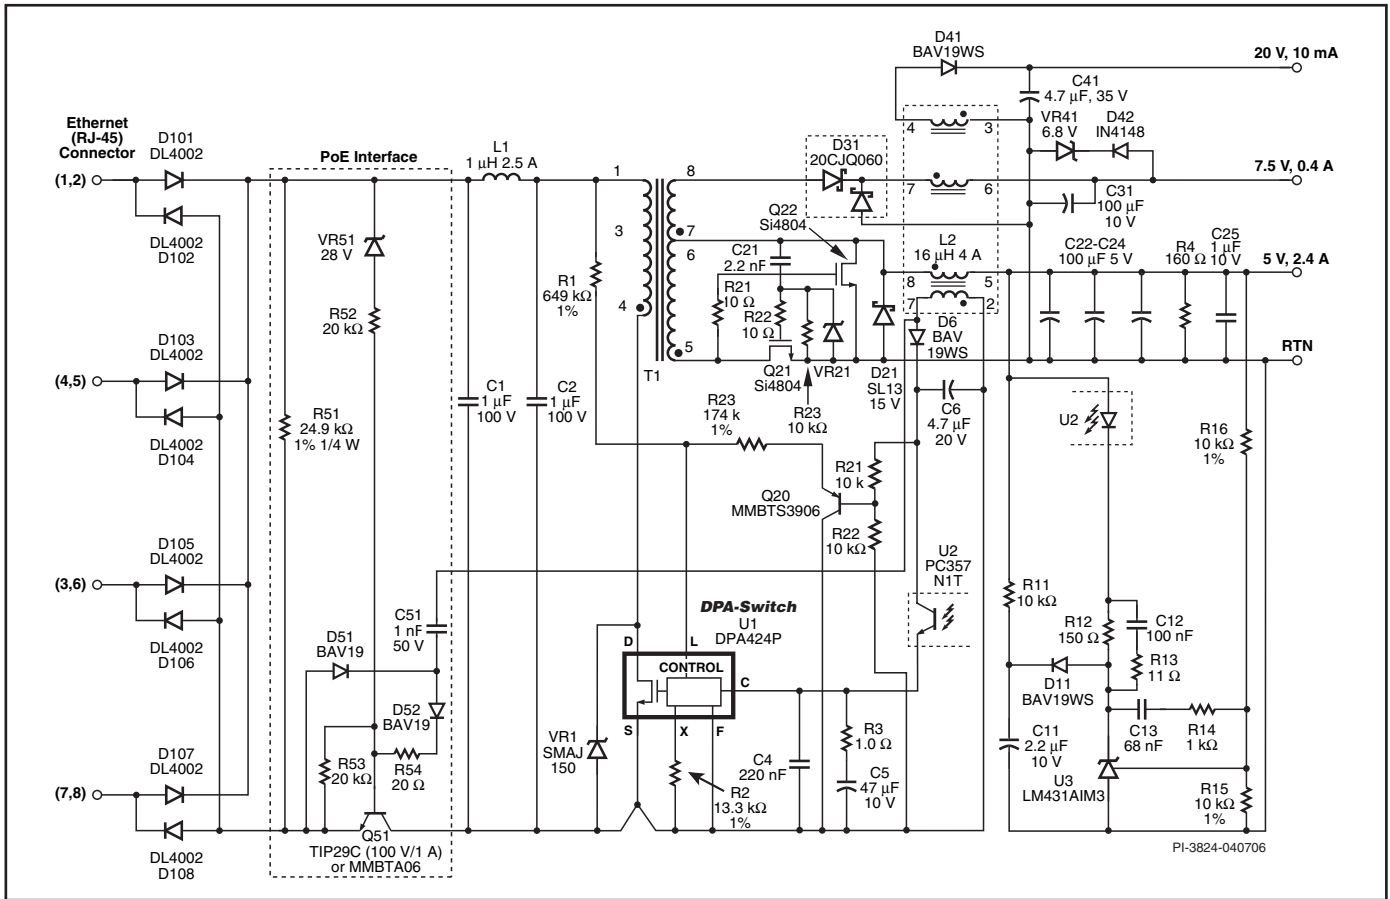

Figure 27. PoE Interface Circuit Using a Bipolar Transistor Pass-Switch and DPA424P.
controlled pass-switch. By adding this circuitry to the front end of a DPA converter, a low cost and low component count PoE powered device (PD) power supply can be implemented. Figure 27 shows a typical PD solution.
When input voltage is applied to the PD, it must present the correct discovery signature impedance in the voltage range of 2.5 VDC to 10 VDC. This impedance is provided by R51 in Figure 27.
In the third phase, the bipolar pass-switch (Q51 in Figure 27) connects the input voltage to the power supply at voltages above approximately 30 VDC (28 V+VR52). Zener diode VR51 conducts, driving the current through resistor R52 to the base of Q51. Resistor R53 prevents turn-on under other conditions. Once the Power supply has started, components D51, D52, C51 and R54 enhance the base-current drive by coupling